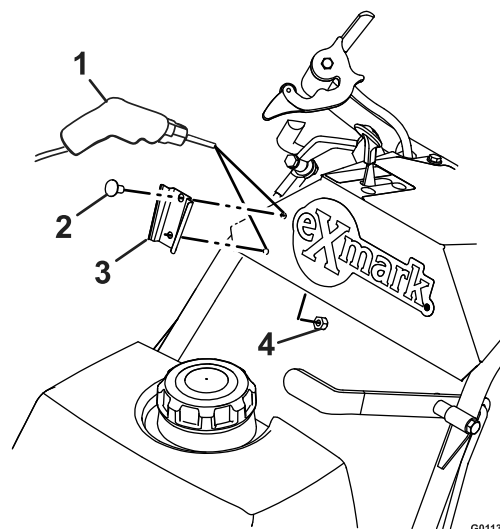

Figure 7
- Position the mounting bracket vertically, with the wide opening of the bracket pointed upward, and install on the front of the unit as shown in Figure 7.
- Using the mounting bracket as a template, mark the two hole locations on the front panel of the unit (see Figure 7). Make sure
- C. Drill two 11/32 inch diameter holes on the front panel as shown in Figure 7.